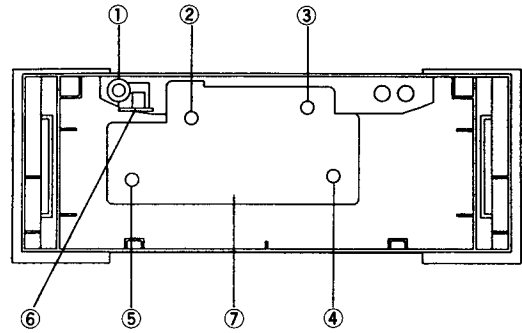

Fig. 7
2. Remove screw ①, in Fig. 7, and then remove pcb-3 ②
3. Remove screws ③ to ⑤, in Fig. 7, and then remove pcb-4 ⑦